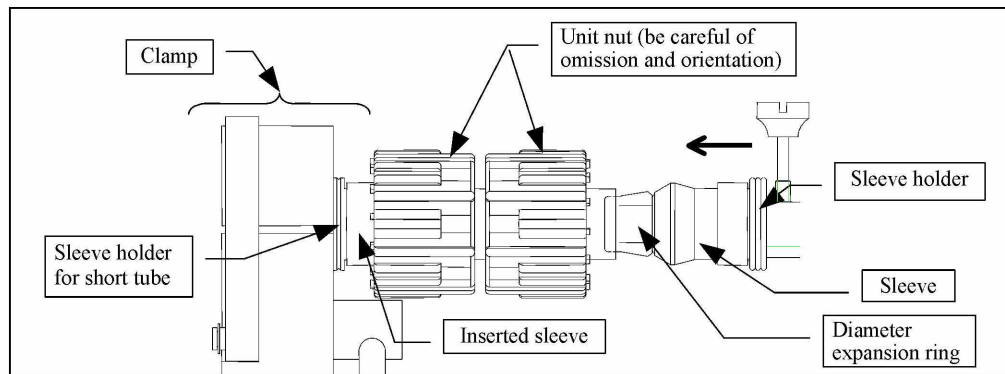

Fig. 20 - Parts arrangement (10 - 25, W3 - W8)
- Loosen the insertion unit locking handle, position the insertion unit so as to allow the arrangement shown in Fig.20, and then retighten the locking handle to secure the unit (refer to Table 12 for applicable parts).